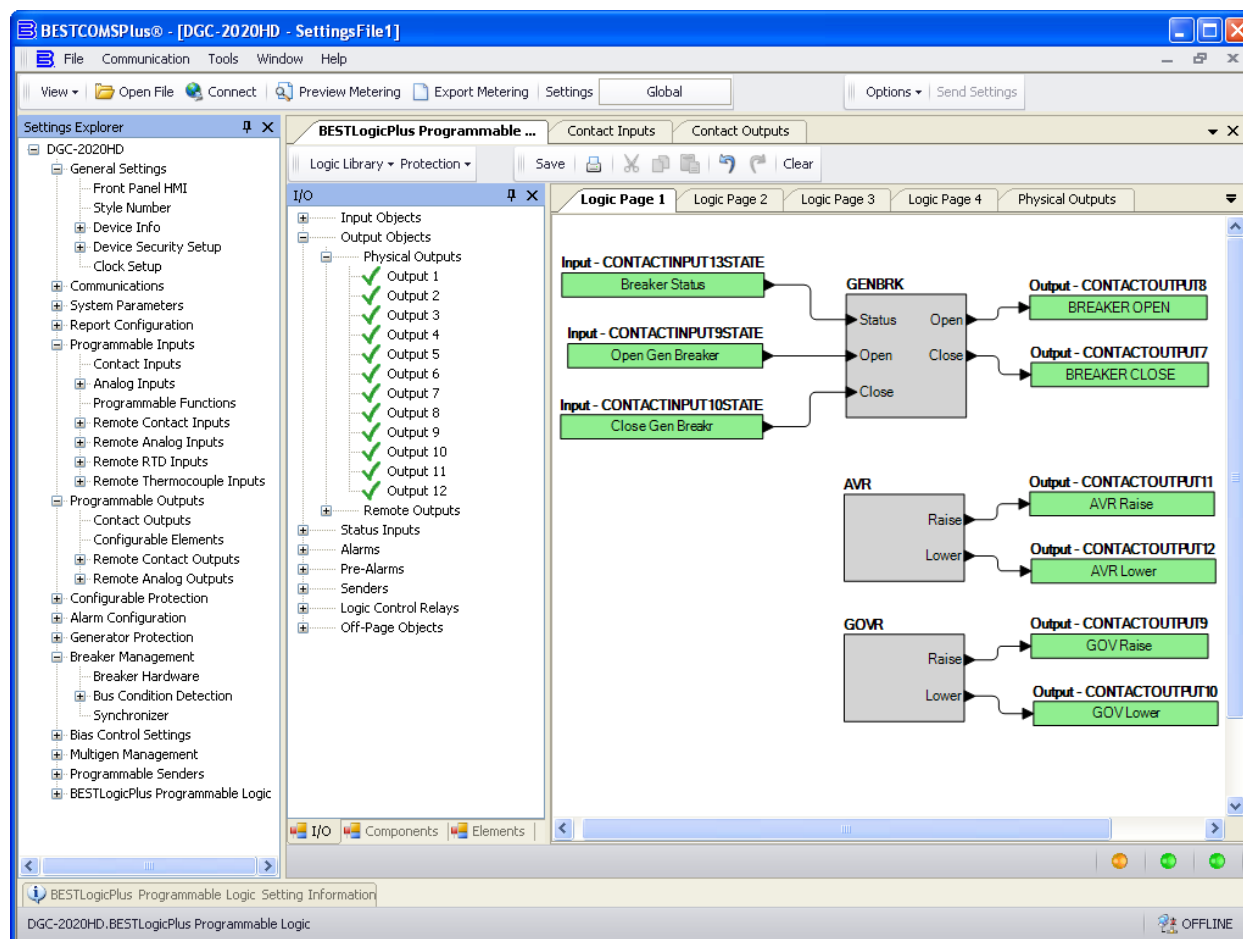

Figure 58. Synchronizer Setup in BESTLogicPlus Step 15
15. Click on the I/O tab and drag the outputs assigned in step 4 into the main logic screen. Connect the GOVR and AVR blocks to the appropriate output contacts. See Figure 58.